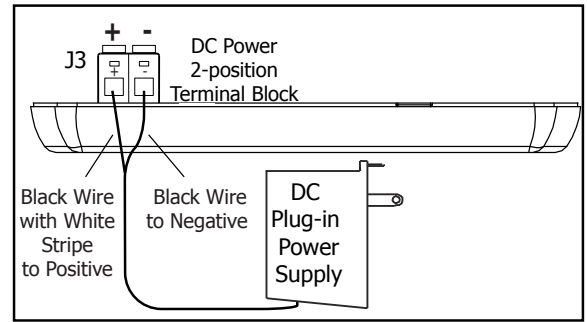

Figure 3: DC Plug-in Connection
1. Place the new battery and secure with the battery straps. See Figure 3.